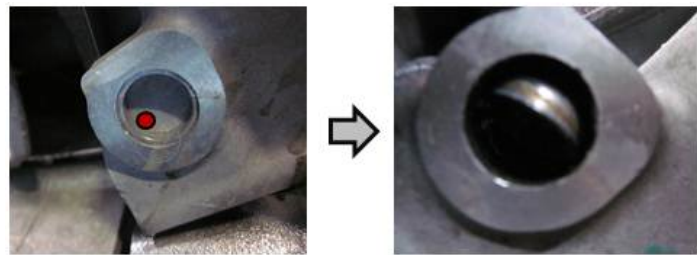

Figure 8. Marked area on main port of freeze plug.
7. Remove main port freeze plug by hitting the marked area with a small punch until it turns (Figure 8). Remove with pliers.